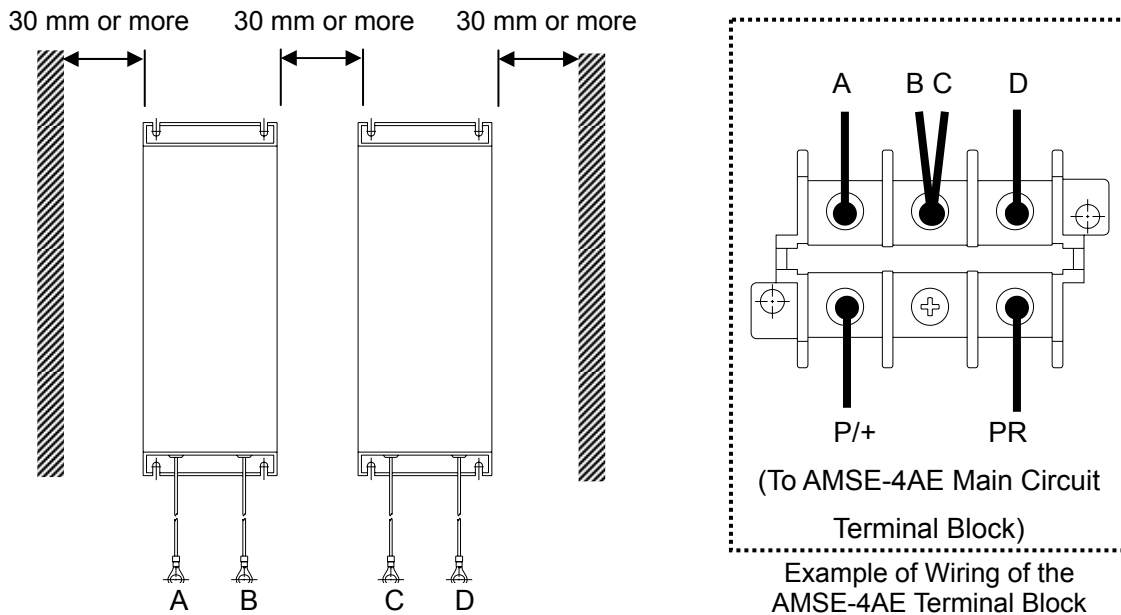

Fig. 4.1b Regenerative Resistor Installation Standards
- * Pay attention to the installation standards below (Fig. 4.1b).